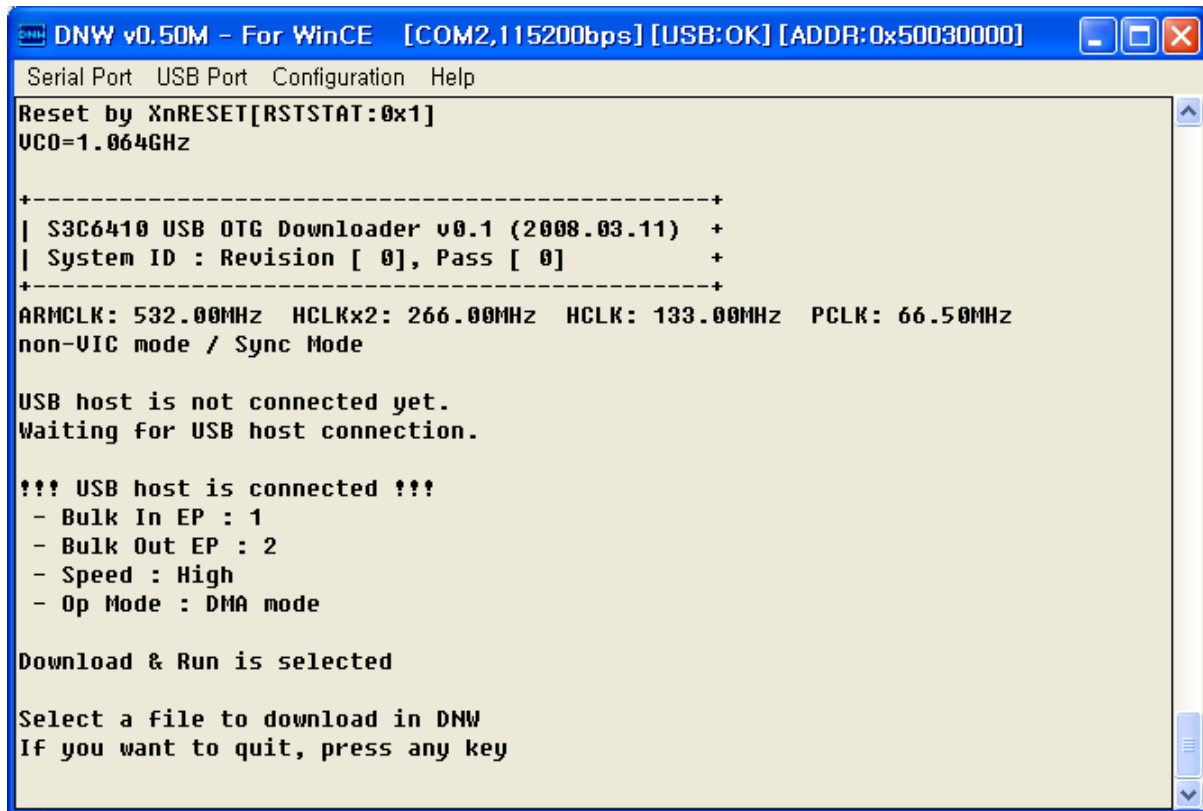

Figure 6-3 DNW Window after Board Power ON
6. On the Serial Port menu, click Connect. Switch ON the board and then press any key. The DNW window appears as shown in figure 6-3.